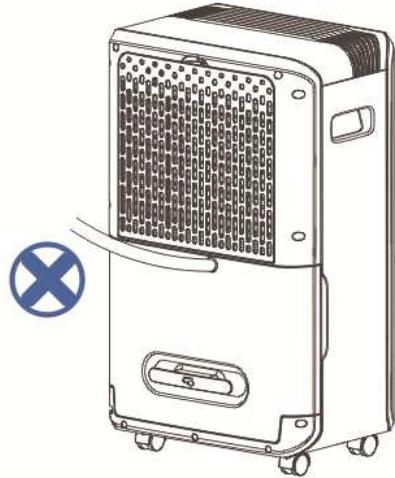

Fig. 3
3. Insert a water pipe with an inner diameter of 12 mm into the continuous drainage hole. The water pipe should have a downward slope and the water outlet should face downward to ensure the smooth discharge of the condensate (Fig. 3).